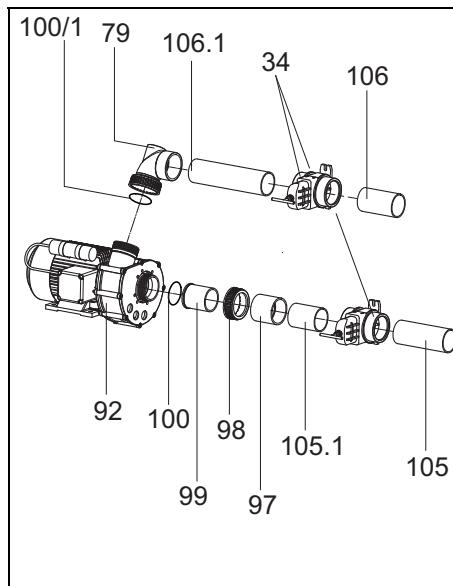

Fig. 14
13. Connect or bond the jet pump (**92**) at the intake side with the suction tube (**105.1**), adapter (**97**), screwed connection (**98; 99**) and at the delivery side with the pressure tube (**106.1**), special reducer (**79**) (*Fig. 14*).